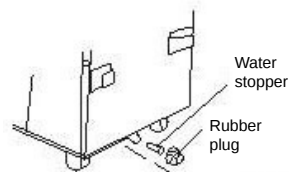

FIG.22
Fig. 22 and 23
1. Take off the water stopper and the rubber plug (fig. 22). Keep them aside.